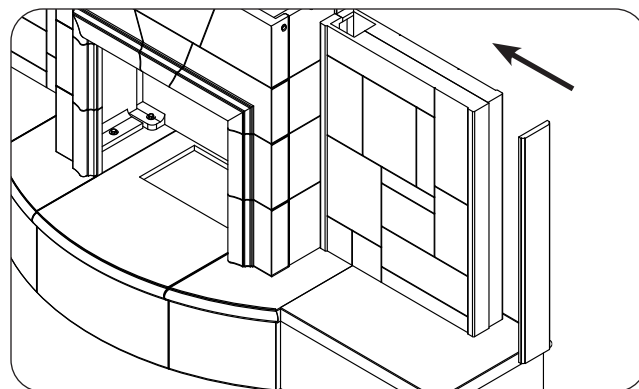

Fig. 26-3 Assemble end side-wall (skip if n/a)
4. Place the end side-wall piece against the front and rear side-walls as shown in Fig. 26-3 (no hardware required).